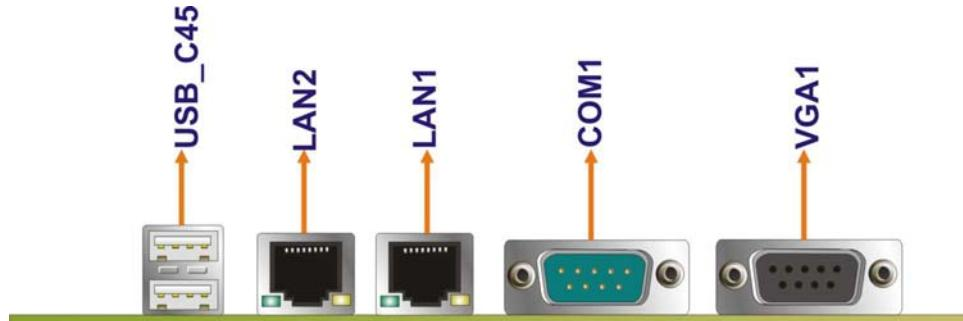

Figure 3-22: External Peripheral Interface Connector
**CN Location:** See **Figure 3-22**